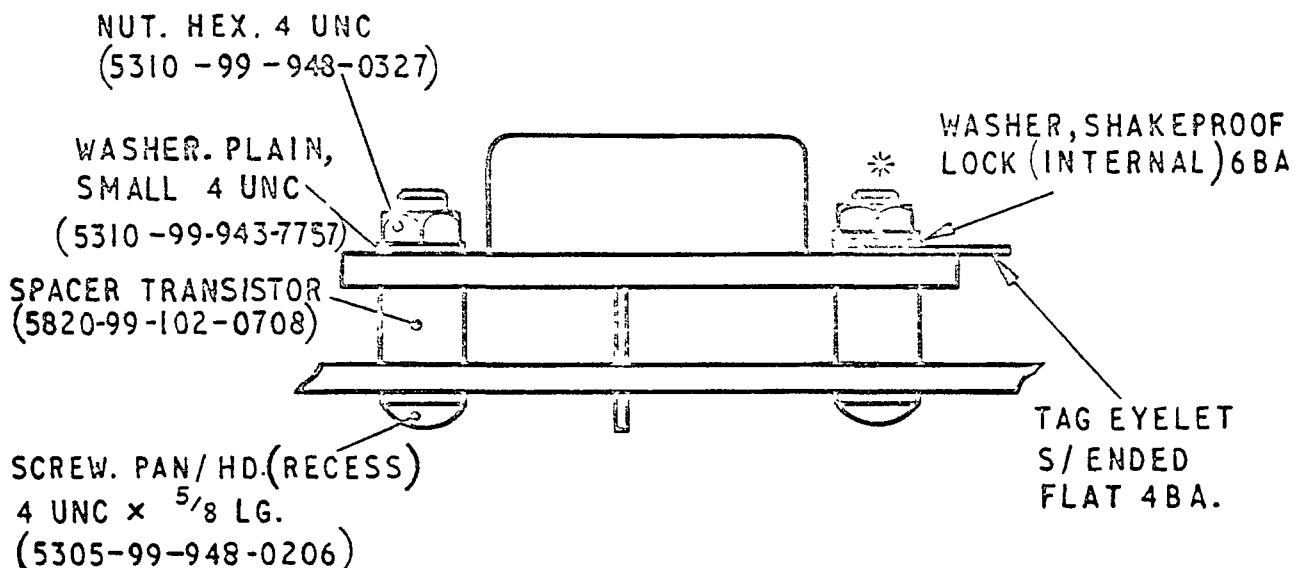

Fig 1 - Transistor fitting detail
- d. Remove the transistors 19TR3 and 19TR4, retain the fixing items for use on the new transistors, Fig 1 shows fitting detail.